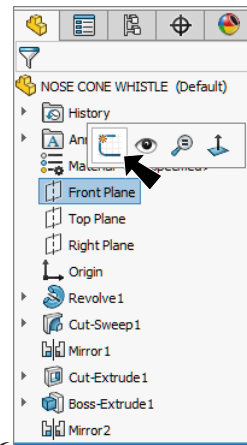

Fig. 45
Step 1. Click **Front Plane**  in the Feature Manager and click **Sketch**  on the content toolbar, **Fig. 45**.